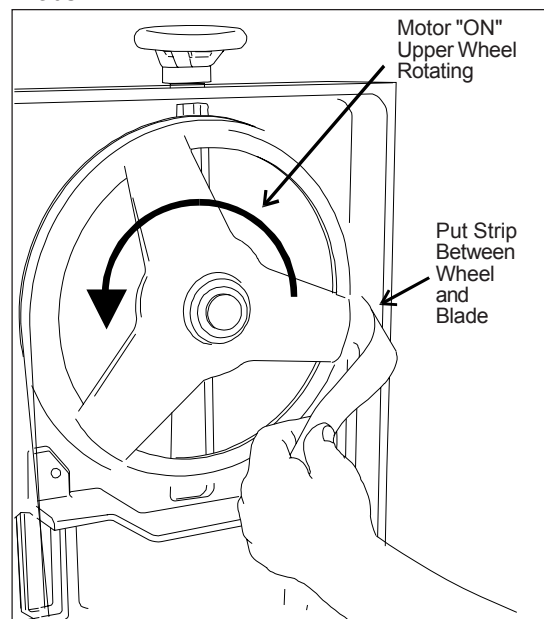

Figure 11: Checking blade-to-wheel clearance using paper strips
8. Turn the single hex adjustment screw to stop the motion of the blade on the wheel as it gets closer to the wheel shoulder. Put a 6-inch length of paper between the blade and the wheel as shown in figure 11. The paper should not be cut as it passes between the wheel shoulder and the blade.